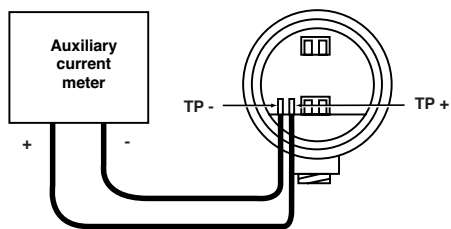

Figure 7
3. Connect the auxiliary meter's positive lead to Test point 1 and its negative lead to Test point 2. See **Figure 7**.